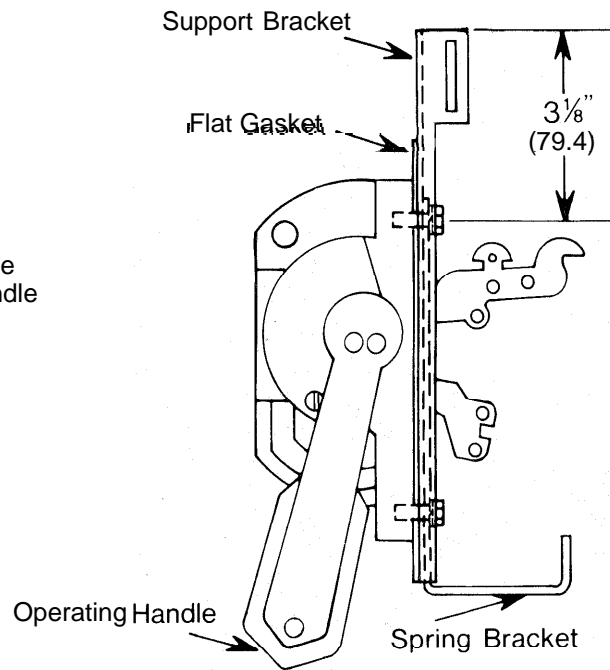

Figure 2
4. Place the flat gasket over the operating handle and against the support bracket as shown in Figure 2.